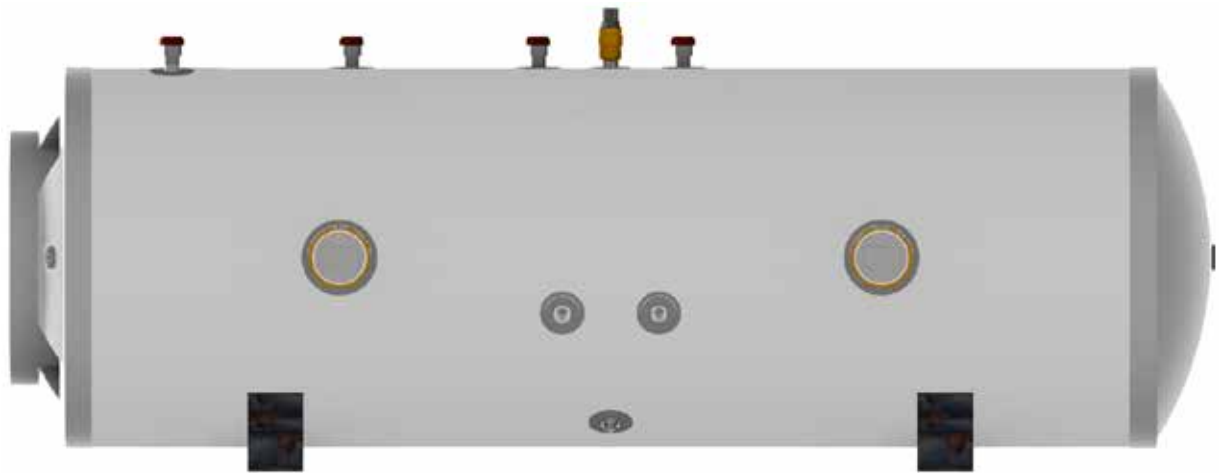

Figure 1 - Stainless Lite Horizontal Indirect
1. **Stainless Lite Horizontal Indirect** - For use with gas or oil boilers (Figure 1). Unvented cylinders must not be used with solid fuel boilers or steam as the energy source.